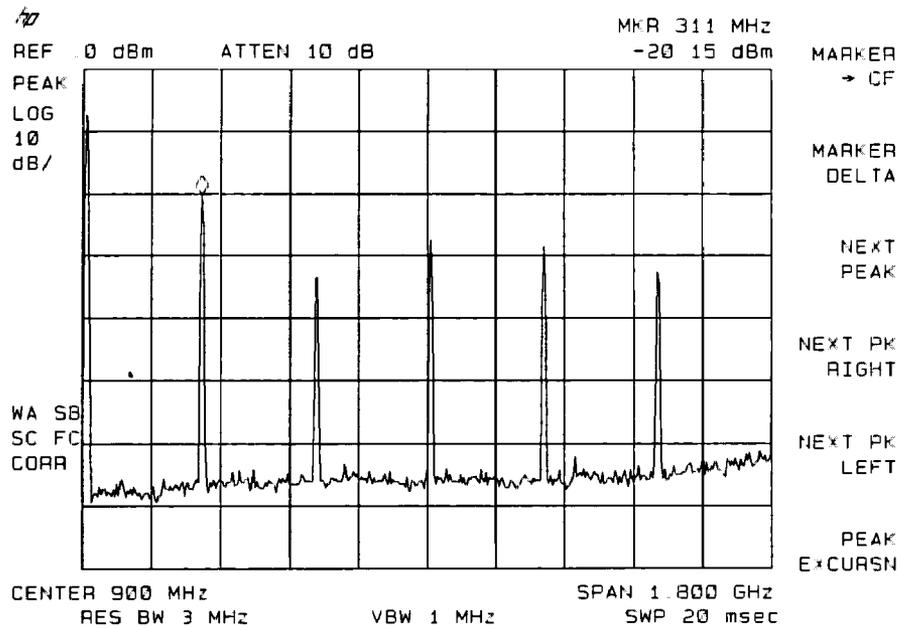

Figure 6-11. Placing a Marker on the CAL OUT Signal
- Press **PEAK SEARCH** to place a marker at the highest peak on the display. The **NEXT PK RIGHT** and **NEXT PK LEFT** softkeys move the marker from peak to peak. Press **NEXT PK RIGHT** to move the marker to the 300 MHz calibration signal. See Figure 6-11.